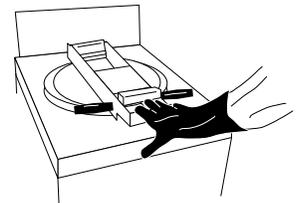

FIGURE 11
- B. Do not touch handlebar to open lid until pressing down on lid lock causes the lid to lower. (Figure 11)